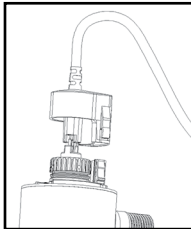
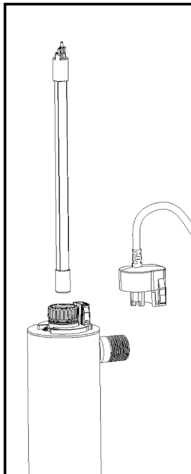
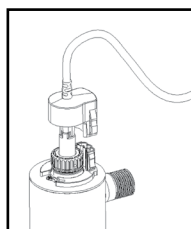

FIGURE 2A
FIGURE 2B
FIGURE 2C
2. Disconnect main power source and allow the unit to power down for 30 sec. Remove the lamp connector by squeezing the plastic locking tabs on the side of the connector. Remove connector and lamp from the reactor chamber and lamp connector base. Separate the lamp from the connector (Figure 2A). Do not twist the lamp from the connector, simply slide the two apart. Avoid touching the lamp on the glass portion. Handling the lamp at the ceramic ends is acceptable, however if you must touch the lamp glass, please use gloves or a soft cloth. Fully remove the lamp from the reactor chamber being careful not to angle the lamp as it is removed from the chamber. If the lamp is removed on an angle, pressure will be applied on the inside of the quartz sleeve, causing the sleeve to fracture.
3. To install a new lamp, first remove the lamp from its protective packaging, again being careful not to touch the lamp glass itself. Carefully insert the lamp into the reactor vessel (actually inside the quartz sleeve) (Figure 2B). Insert the lamp fully into the chamber leaving about two inches of the lamp protruding from the chamber. Next, attach the connector to the UV lamp (Figure 2A). The connector will only allow correct installation in one position. Ensure the connector is fully seated onto the UV lamp (Figure 2C).